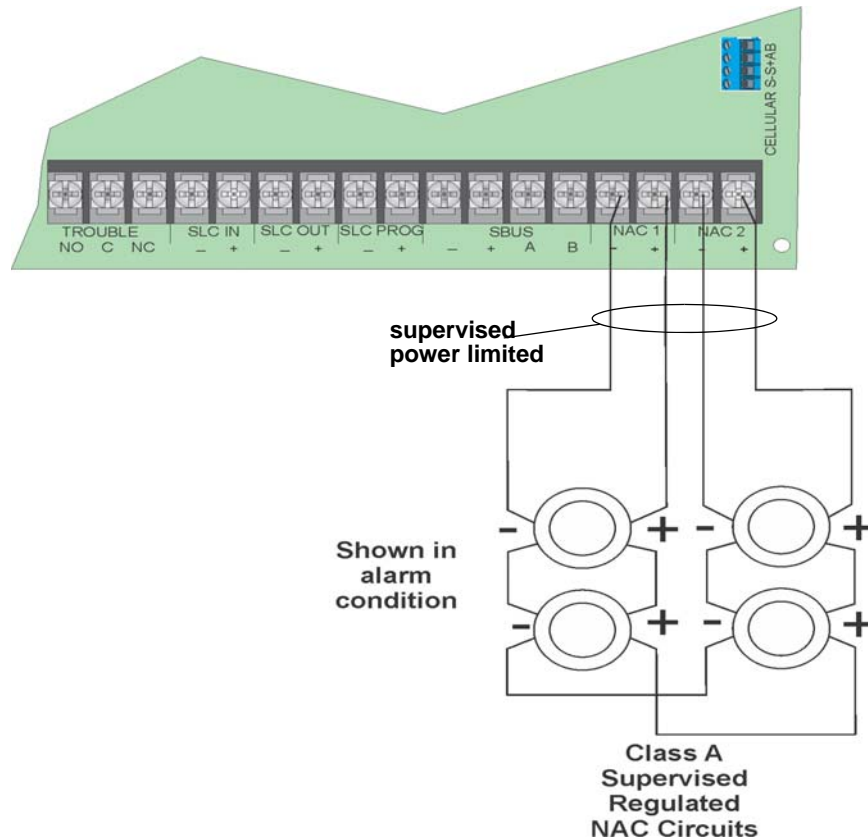

Figure 4.46 Class A Notification Appliance Circuit Configuration
1. Wire the Class A notification appliances as shown in Figure 4.46.